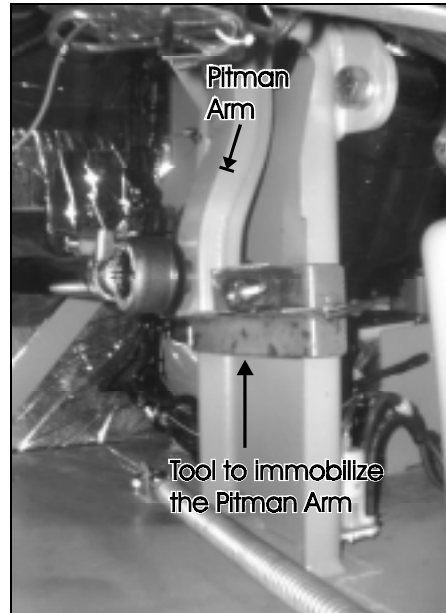

FIGURE 6
5. Immobilize the pitman arm using the appropriate tool (Fig. 6).